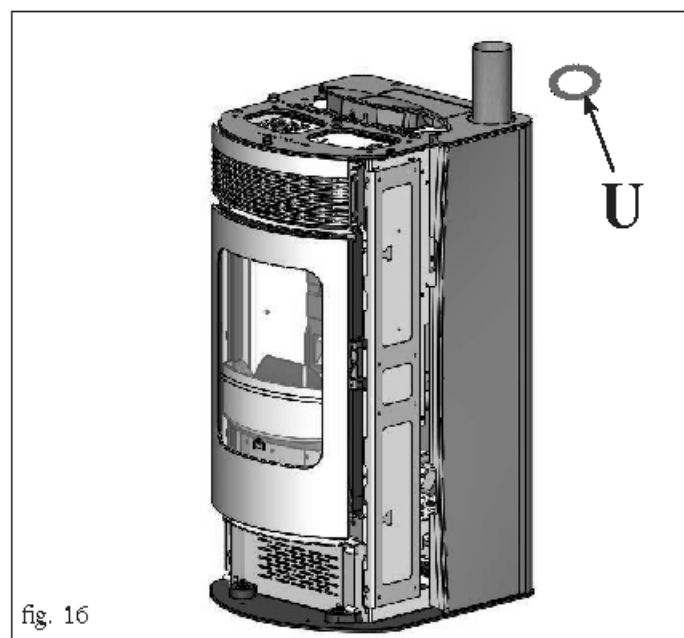

fig. 16
- Position the rosette provided (U - Fig. 16).